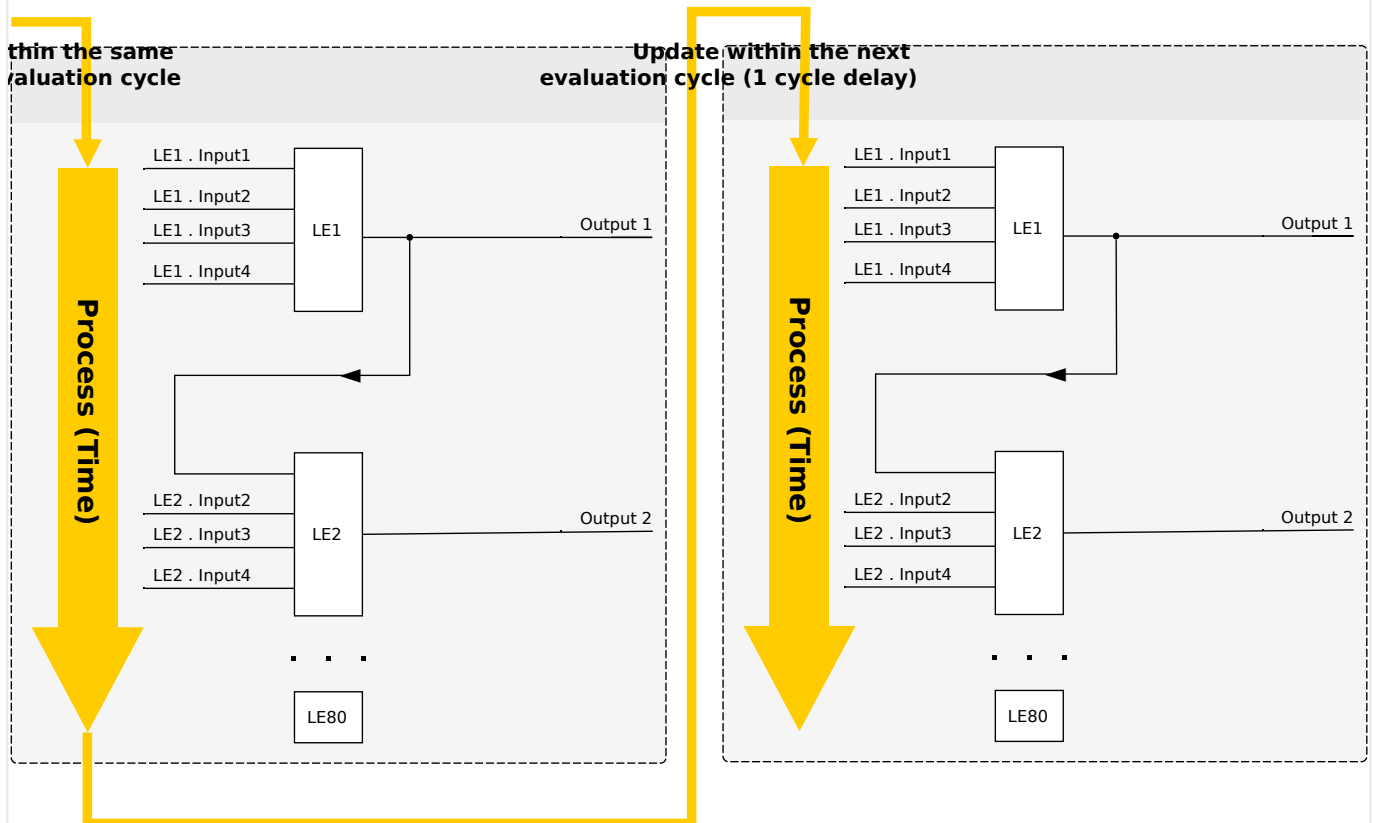
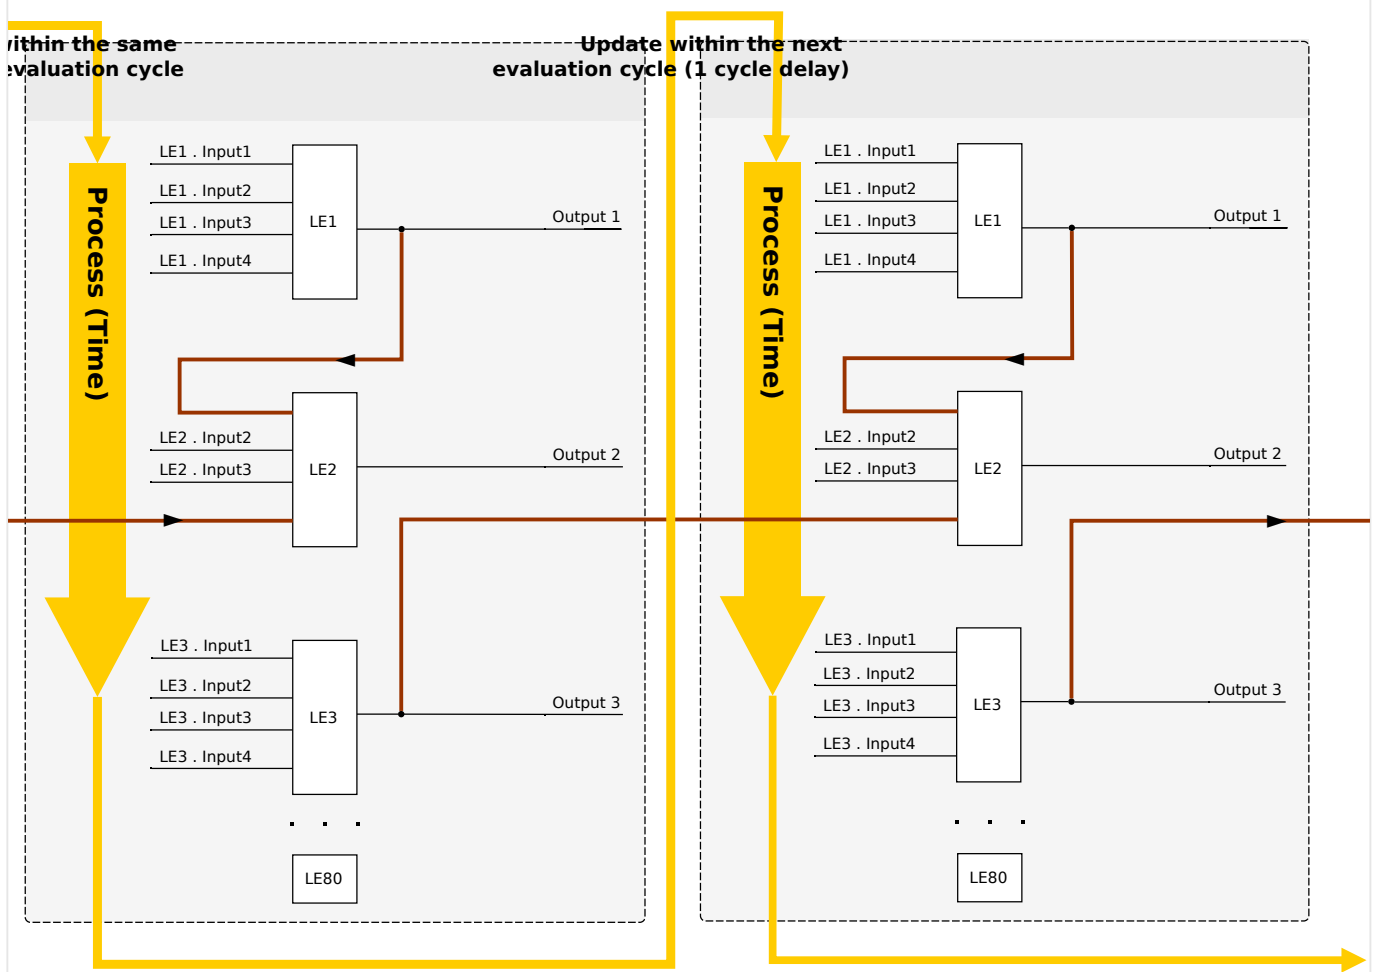

Fig. 81: Cascading in Ascending Order.
Fig. 82: Cascading in Descending Order.
- **Ascending** sequence means that some output is fed into the input of a logic equation with **higher** number. For instance, diagram ↪Fig. 81 below shows an example where the result of Logic Equation LE1 is used as an input of Logic Equation LE2.
- **Descending** sequence means that some output is fed into the input of a logic equation with **lower** number. For instance, diagram ↪Fig. 82 shows an example where the result of Logic Equation LE3 is used as an input of Logic Equation LE2.
Both ascending and descending sequences may be used and combined one with the other, with no immediate difference. However, due to the evaluation of all equations in ascending order the actual run-time values that are fed in at the input of an equation will have a different “age”, as is shown in ↪Fig. 81 and ↪Fig. 82 below.
In the example shown in Fig. 82 above, “Logic Equation 2” uses the output states of two other equations, “Logic Equation 1” and “Logic Equation 3”. The result of “Logic Equation 1” is used in ascending order and has therefore been evaluated within the same process cycle. The result of “Logic Equation 3” is used in descending order and has therefore been evaluated in the previous process cycle.